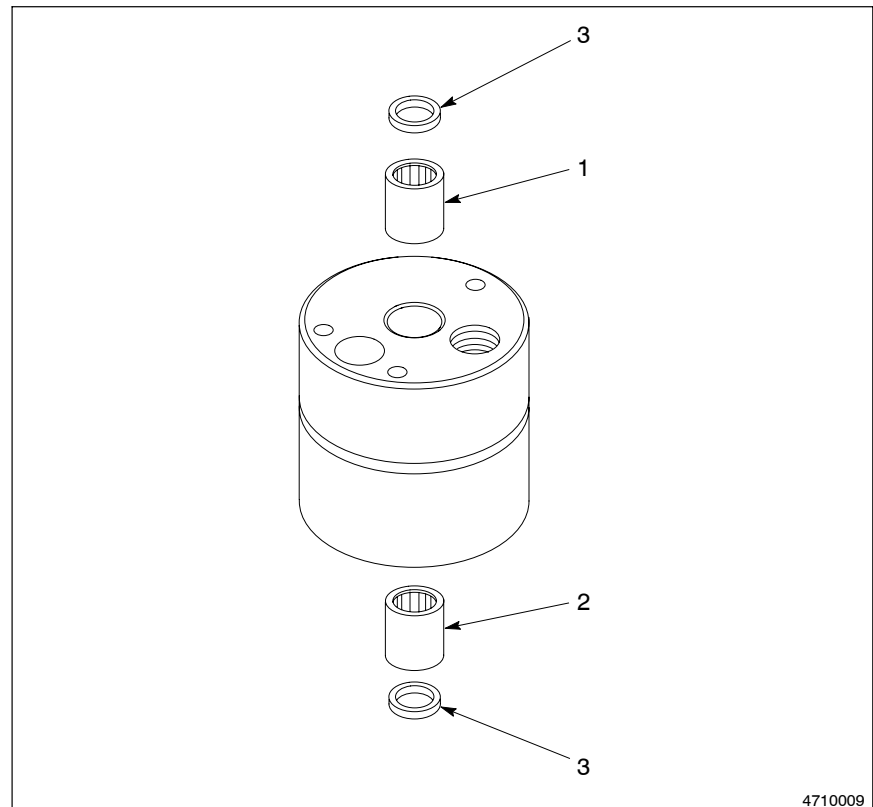

Fig. 7-27 Removing the Upper and Lower Open Needle Bearings
13. See Figure 7-27. Press the upper needle bearing (1) and lower needle bearing (2) out of the pump body. Discard the needle bearings and the shaft seals (3).